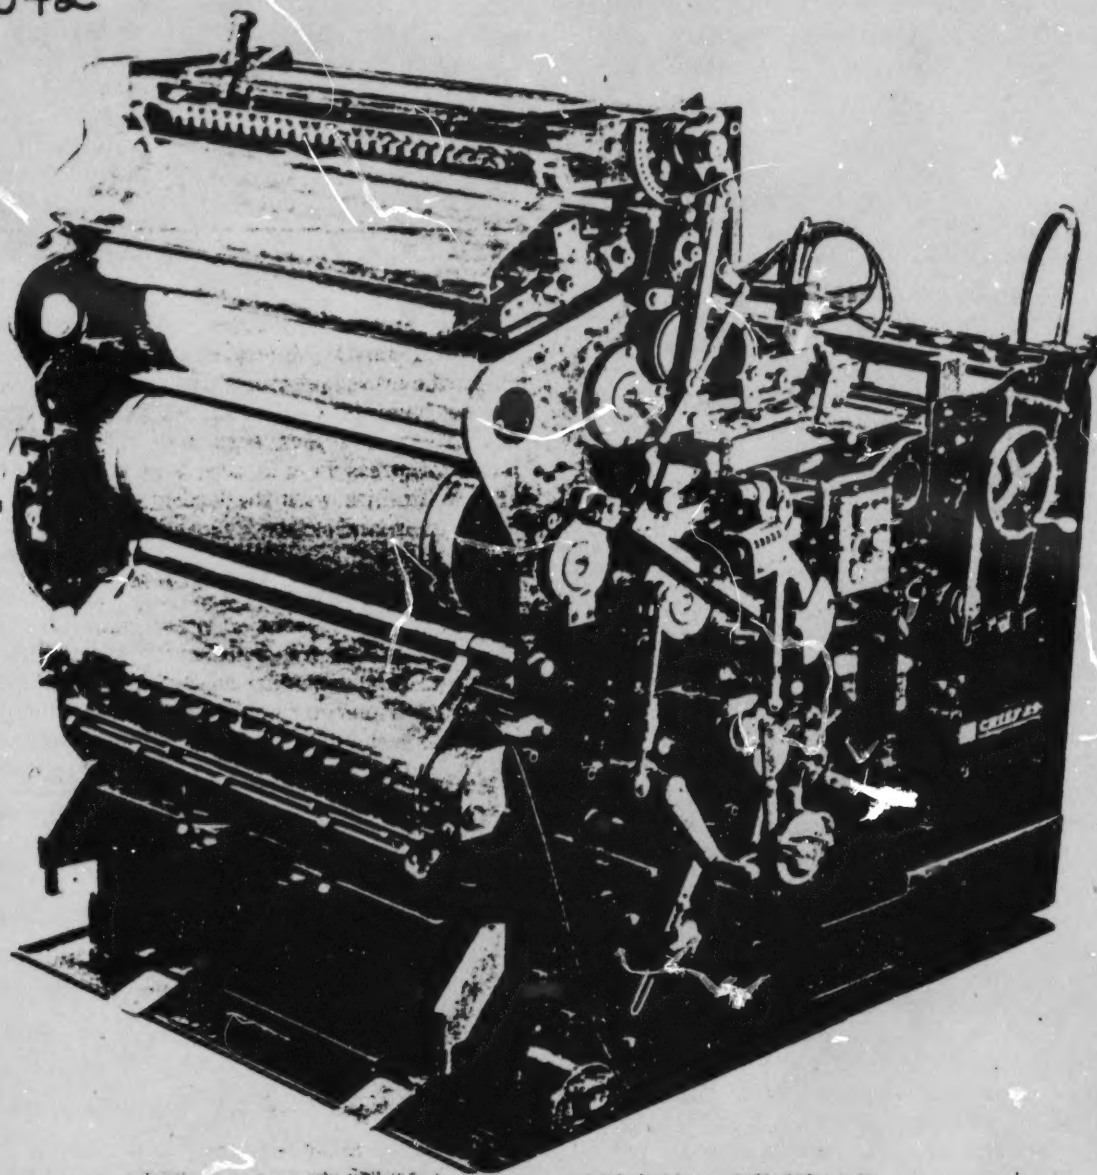
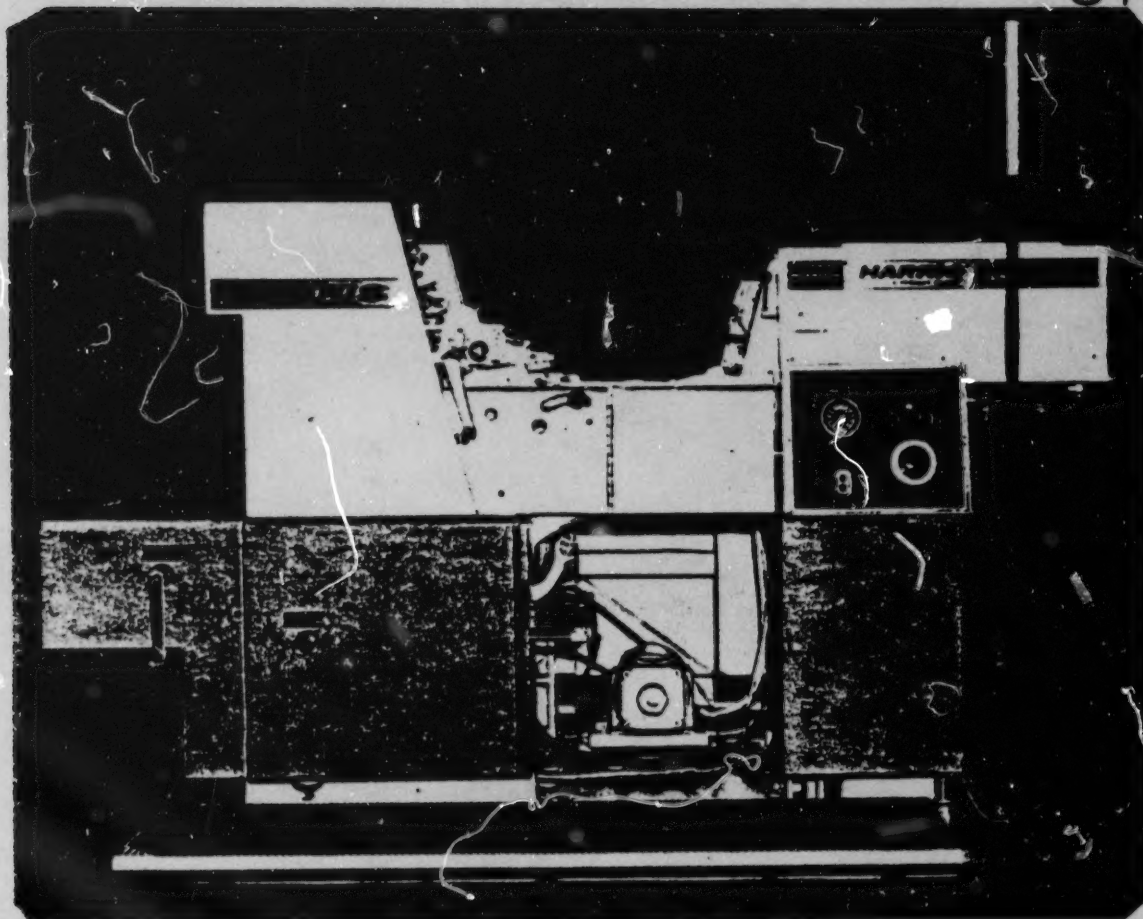

Figure 8-1. ATF Model DP (Chief 29) viewed from the operator's side and showing delivery end.
Figure 8-2. Harris LKG Press.
c. The presses used by military printing plants, while they vary in size, model, and maker, are almost all of the single-color, sheet-fed type, printing on one side of the paper. The ATF Model DP (also called the Chief 29) is the standard offset press in Army topographic units, and is the one used in the mobile vans (fig. 8-1). It can accommodate a maximum paper size of 22½ by 37 inches, and a minimum paper size of 11 by 17 inches. The Harris LUD (fig. 8-2) which is used in some printing plants, has a maximum paper size of 23 by 30 inches, and a minimum paper size of 9 by 12 inches.